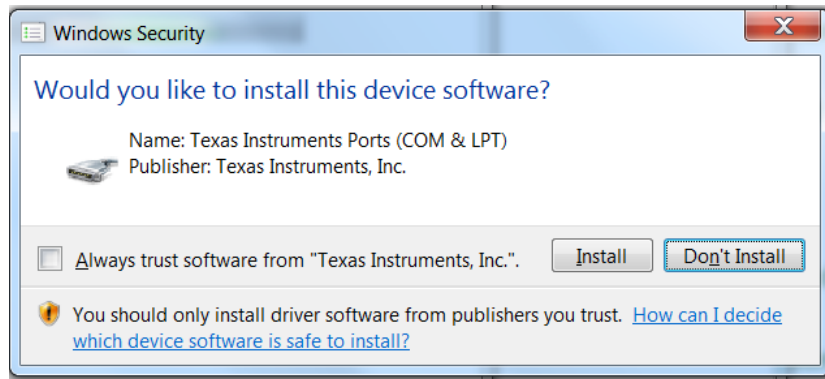

Figure 28. Windows Security Dialog Box
- Windows 7 displays the Windows Security message shown in Figure 28. Click the *Install* button.